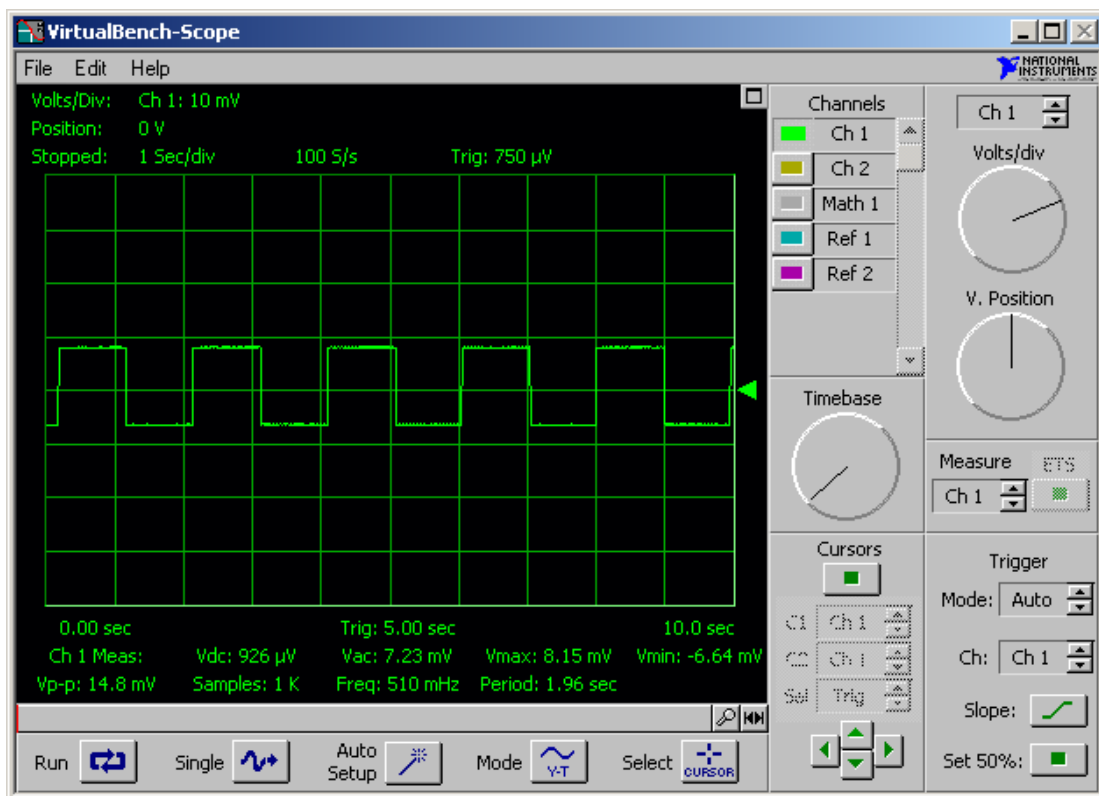

Figure 7. Very Small Oscillations about Zero
5. We now want to study a signal with very small square wave oscillations about zero volts. Readjust the function generator to remove the bias voltage from the signal. Also reduce the signal amplitude so that its oscillations are less than 20 millivolts peak to peak. You will find the -30 db button to be helpful here. Adjust the sensitivity of the Virtual Scope to 10 millivolts per division. With this series of changes, your Virtual Scope display should now look very much like Figure 7.